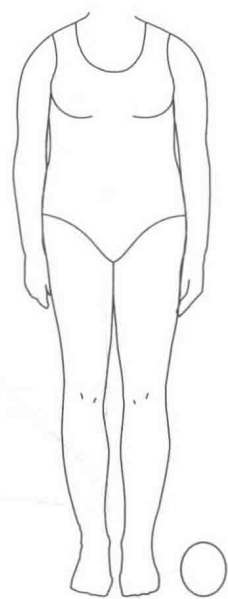

FIGURE 4.38
- The rounded or oval figure may be balanced or not, but has more than average body weight distributed over its bone structure (see Figure 4.38).